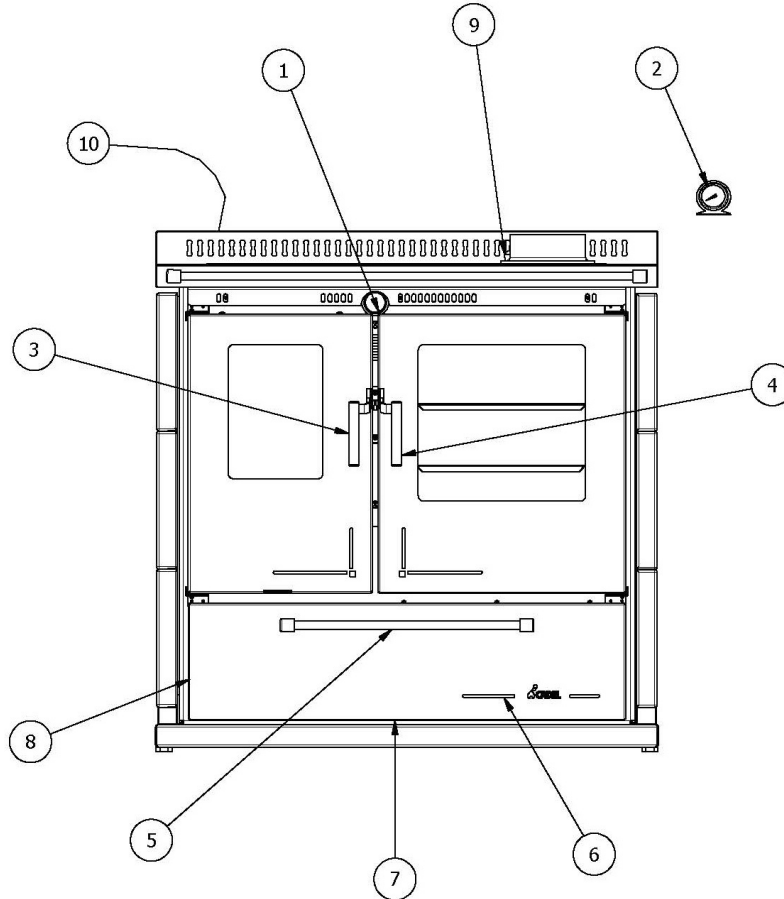

Fig. 26 - Position commands
LEGEND Fig. 26 page 26
- Over the ash box there is a slot opening (see **Fig. 26 page 26**) which allows the entry of additional air for starting up or to revitalise the fire for cooking (the water temperature must not exceed 90°).